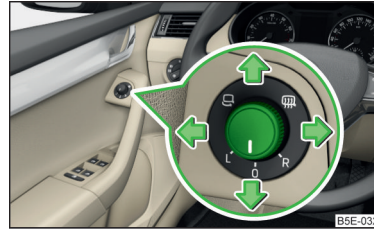

Fig. 80
- Move the rotary knob in the direction of arrows » Fig. 80.